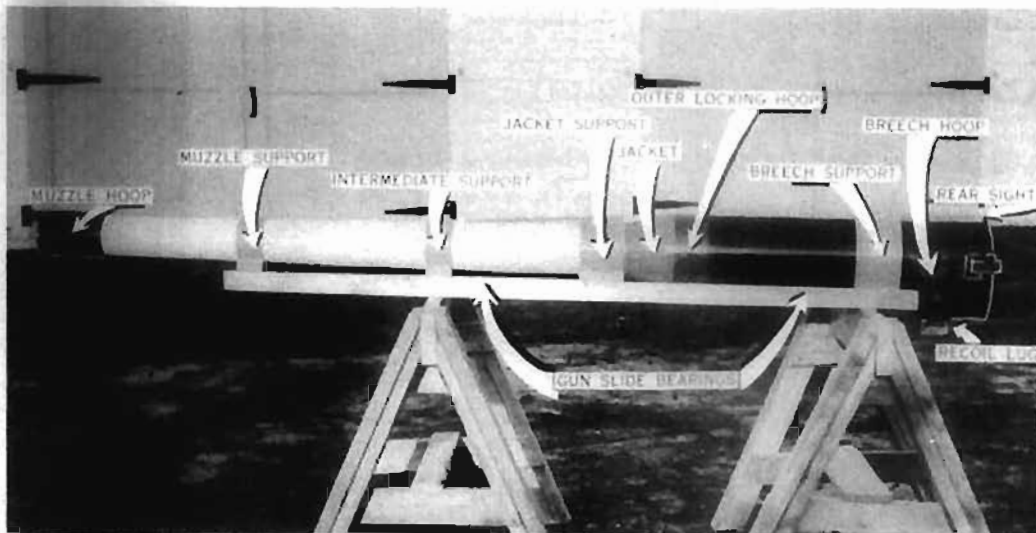

Figure 2
2. Supports--hold gun slide bearings in alinement (fig. 2).